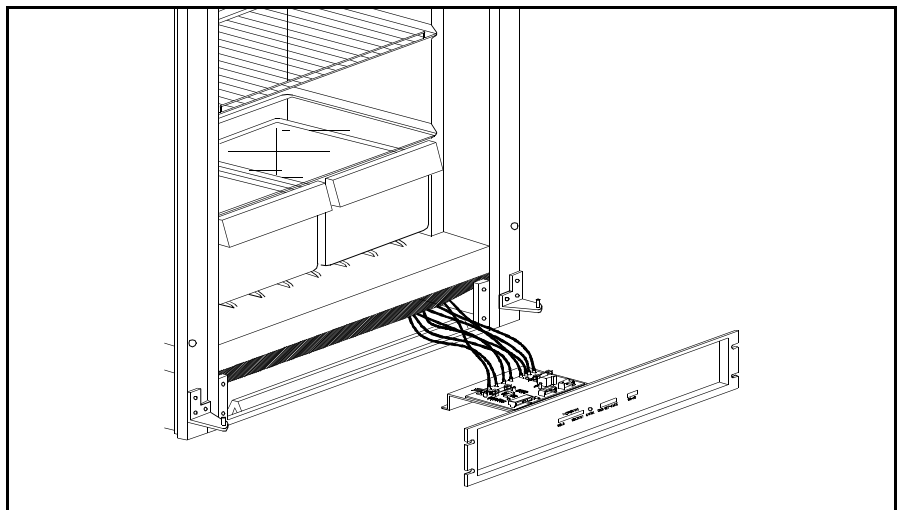

Figure 4.44 Withdrawing Control Panel
- 7. Using extreme care, pull the control panel forward and the PC Board will be visible as shown in Figure 4.44.